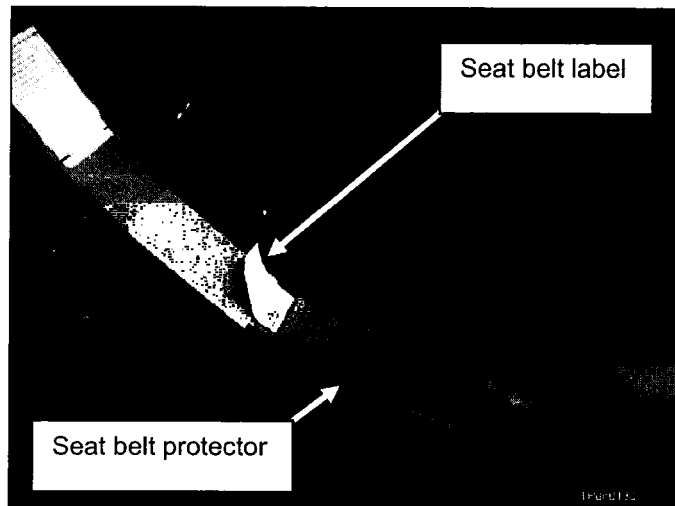

Figure 6
5. Install the seat belt protector onto the seat belt as shown in Figure 6.
**NOTE:** Make sure the seat belt label is on top of the seat belt protector – not tucked under it (see Figure 6).